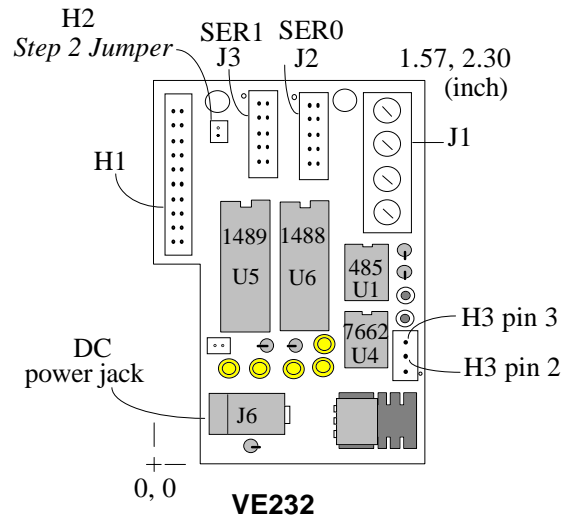

Figure 1.7 The VE232, an interface card for the A-Engine
- Set the Step 2 jumper on H2 pins 1-2 on the VE232 (Figure 1.7), or, if you are not using the VE232,
The VE232, shown in Figure 1.7, measures 2.3 x 1.57 inches. A wall transformer (9V, 300 mA) with a center negative DC plug ($\varnothing=2.0$ mm) should be used to power the A-Engine via the VE232. The VE232 connects to A-Engine via H1 (2x10 header). SER0 (J2) and SER1 (J3) on the VE232 are 2x5-pin headers for serial ports SER0 and SER1. SER0 is the default programming port.